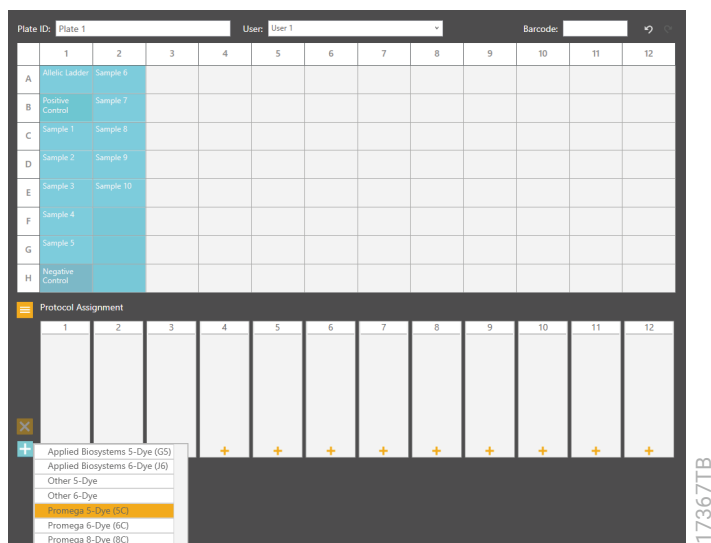

Figure 12. Assigning run protocol to multiple injections.
- To add a run protocol to multiple injections, highlight the desired injections in the plate map (click-drag, Ctrl + click or click the upper left cell). Then select the **+** button on the left side of the injection information section and choose **Promega 5-Dye (5C)** (Figure 12) from the pop-up menu.